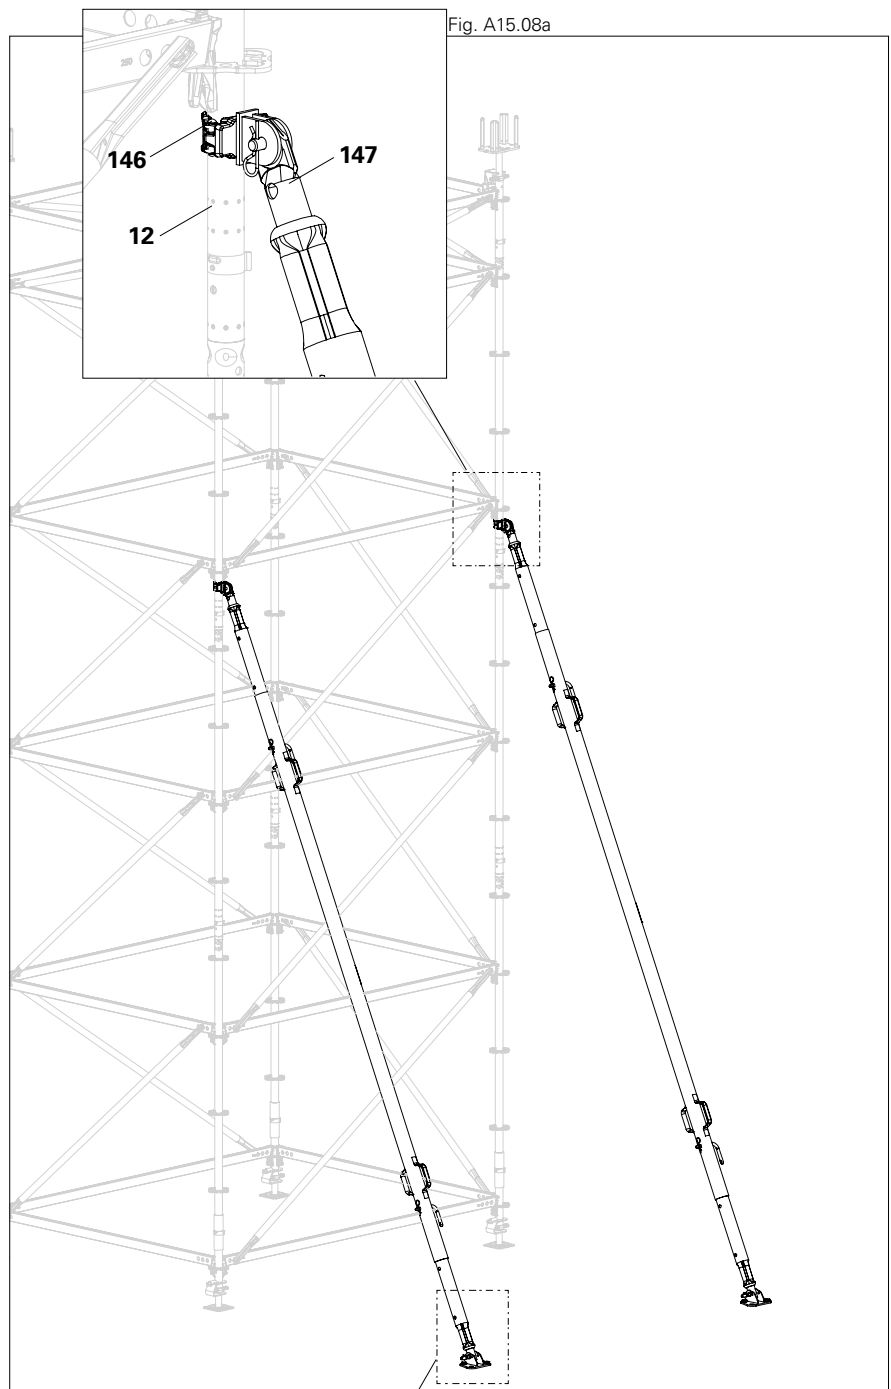

Fig. A15.08
- The push-pull prop is now installed. (Fig. A15.08)